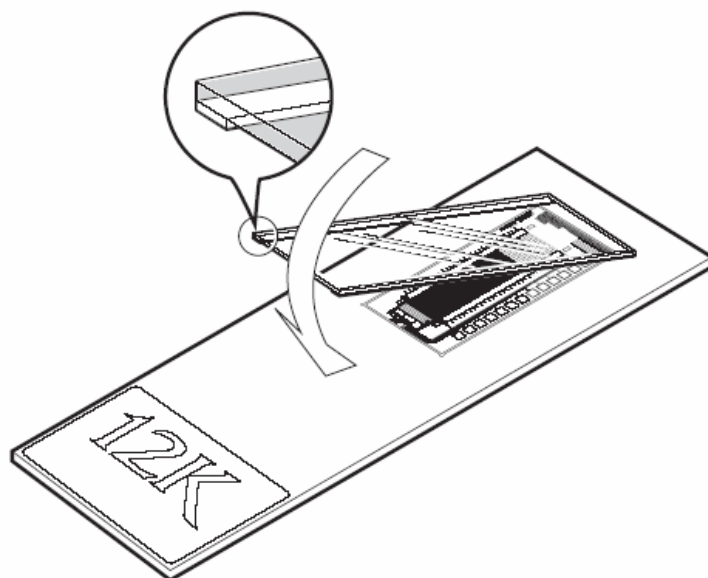

Figure 5. Microarray with LifterSlip™ coverslip
5. Lay the LifterSlip™ at an angle onto the microarray so that it is centered over the semiconductor area (see Fig. 5). First touch the Imaging Solution with one side of the LifterSlip™, then slowly lower the slip down, taking care not to introduce air bubbles. If bubbles still form, lift one side of the LifterSlip™ with forceps (or a razor blade) to let the bubbles out, and lower it down again.